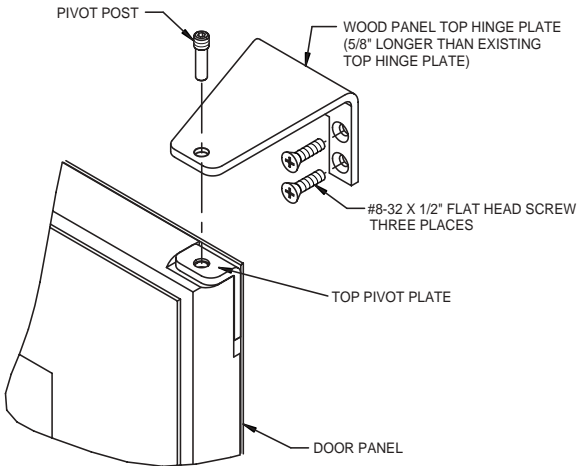

Figure 8
- b. Install the top (P/N 12021) hinge to the cabinet (see Figure 8).